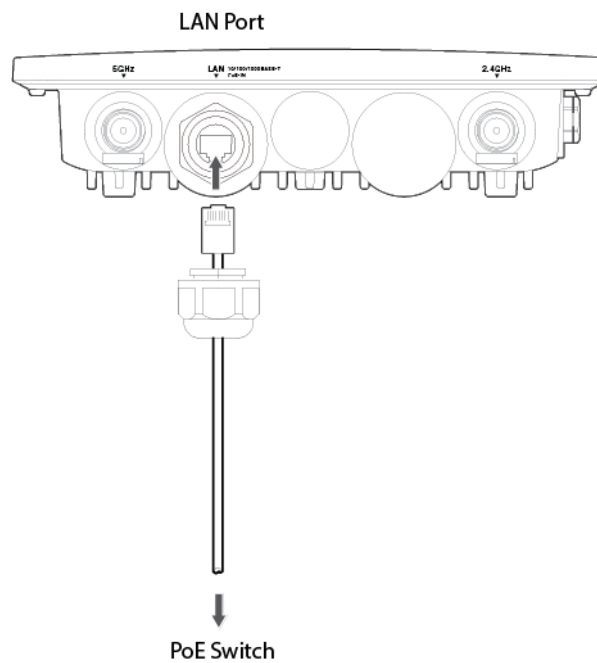

Figure 13. Connecting the LAN Cable and Attaching the Sealing Nut
4. Connect the RJ-45 plug into the LAN port and screw the sealing nut to the access point as shown in Figure 13.